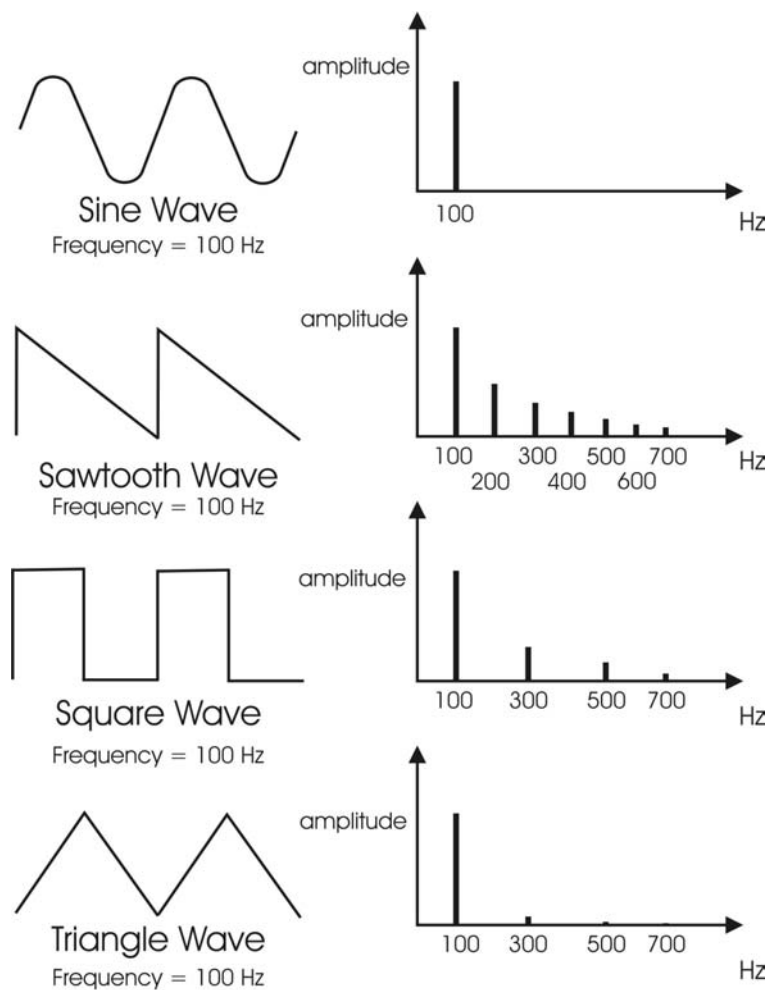

figure 5
**Harmonic Content** – A sound is made up of simple vibrations at many different frequencies (called harmonics) which give a sound its particular character. This corresponds to the musical term *timbre* or *tone color*. A harmonic sound, such as a vibrating string, is one in which the harmonics are mathematically related by what is called the harmonic series. These sounds are typically pleasing to the ear and generally the consecutive vibrations have the same characteristic shape or waveform. An inharmonic sound, such as a crash cymbal, is one in which the harmonics are not mathematically related. Their waveforms look chaotic. White noise is an inharmonic sound that contains equal amounts of all frequencies. A frequency spectrum is a graph of harmonics vs. their amplitude; a waveform is a graph of the amplitude of a sound vs. time (figure 5).